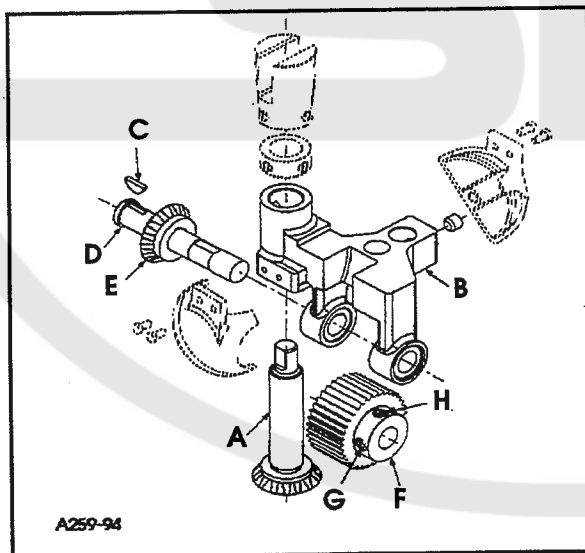

FIG. 17
Assemble driven gear (A, Fig. 17) through feed roller frame (B). Place woodruff key (C) into slot of feed roller shaft (D). Slide driven gear (E) on to shaft (D), make sure key (C) goes into slot in gear (E). While holding feed roller frame (B) with steel roller (F) between the two frame lobes, slide feed roller shaft (D) and assembled components through frame. Make sure that shoulder of roller (F) is to the right. Align screw (G) (first in operating direction on roller) on the flat of shaft (E). At the same time thrust shoulder of shaft (D) against right (inside) face of left lob. Secure screw (G) on flat of shaft (D) and tighten screw (H).